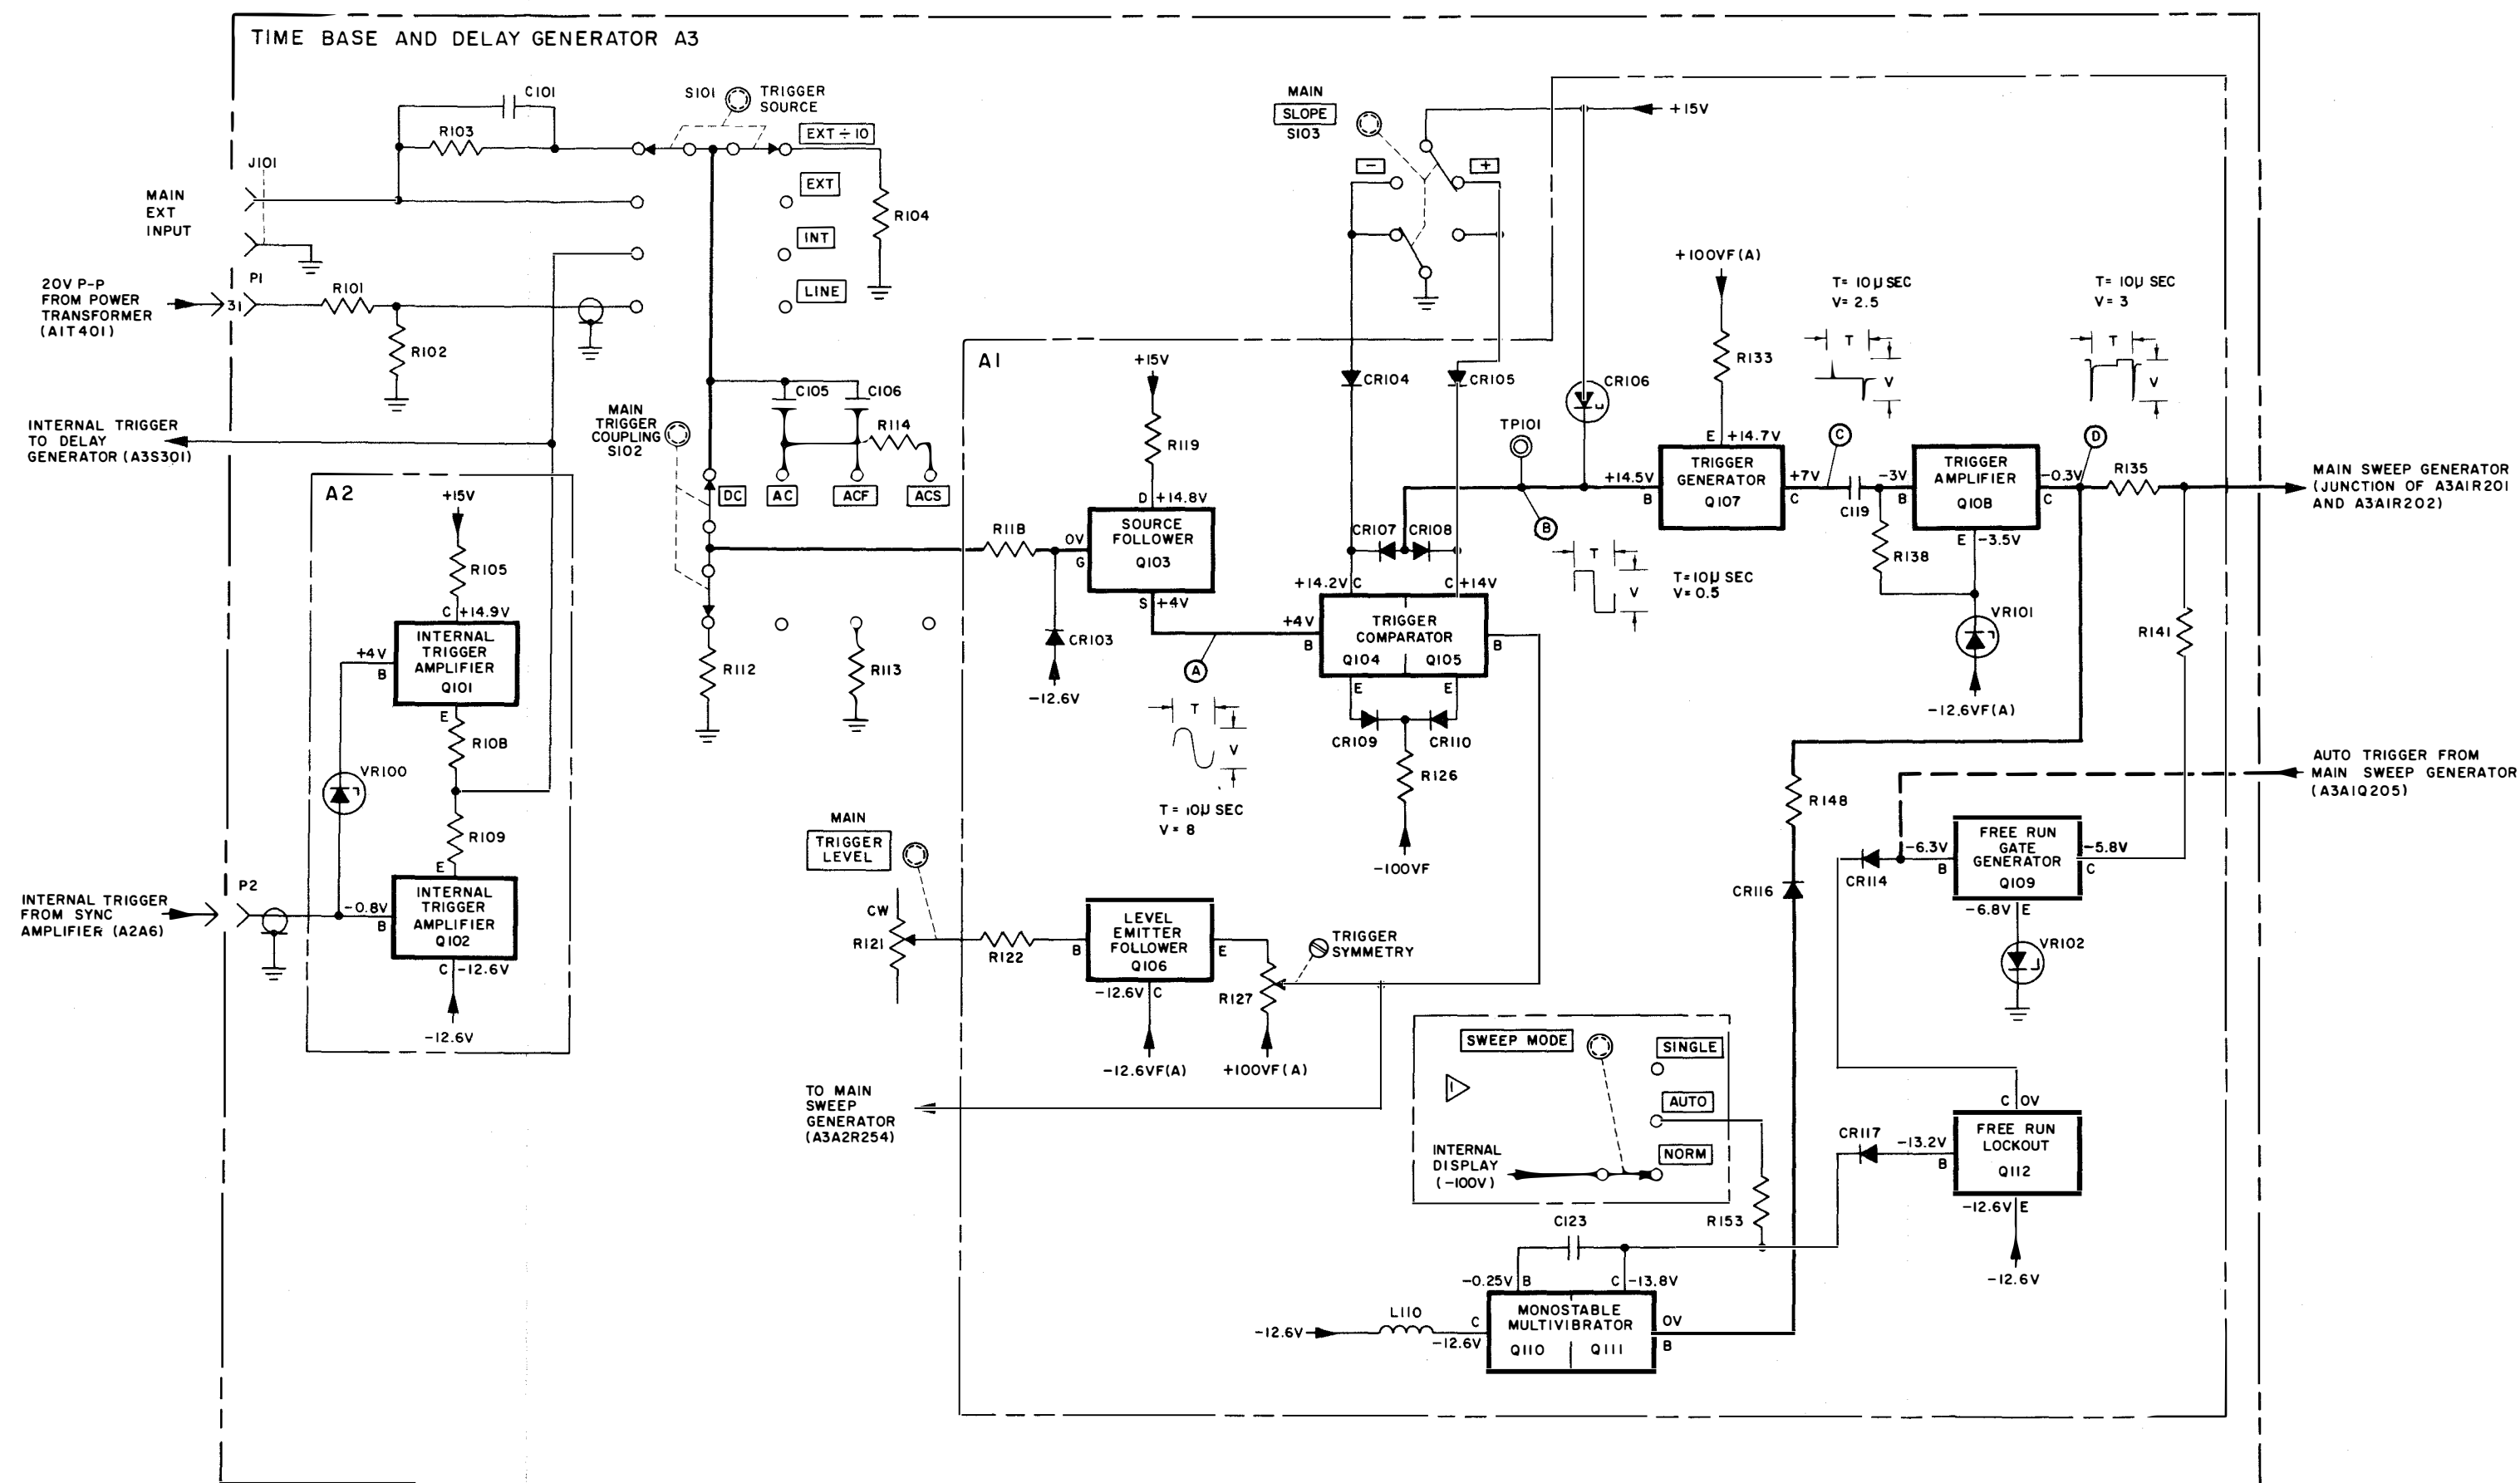

Figure 4-12. Main Trigger Generator and Amplifier Functional and Servicing Block Diagram
not be stabilized by adjusting the main TRIGGER LEVEL, set the SWEEP MODE to NORM and observe the display. If the display remains on the CRT (stable or unstable), the trouble is probably in the main trigger generator and amplifier functional section. If the display disappears, the trouble is probably in the sync amplifier. Further isolate the malfunction by connecting the CALIBRATOR 10V output to the main EXT INPUT and setting the main trigger source to EXT $\div 10$. If a stable trace appears, the trouble is in the sync amplifier or in the internal trigger amplifier (A3A2Q101/A3A2Q102) in the time base and delay generator (figure 4-12). If a display can not be obtained by adjusting the main TRIGGER LEVEL, the trouble is in the main trigger generator and amplifier functional section.
b. MAIN TRIGGER GENERATOR AND AMPLIFIER TROUBLE SHOOTING. - The trouble-shooting chart for the main trigger generator and amplifier functional section is provided in table 4-11 and the servicing block diagram is shown in figure 4-12. A trouble in this functional section will usually cause an unstable main display or no display at all. To isolate a trouble to this functional section, connect the CALIBRATOR 250MV output to one of the vertical inputs and attempt to obtain a display (refer to Section 3). With the SWEEP MODE in AUTO, the main trigger source set to INT, and the main trigger coupling set to DC, a stable square wave should be displayed on the CRT. If the display can not be stabilized by adjusting the main TRIGGER LEVEL or if no display can be obtained, set the SWEEP MODE to NORM and observe the CRT. If the display was unstable in the AUTO mode and a stable display is obtained in the NORM mode, the trouble is probably in the monostable multivibrator (A3A1Q110/A3A1Q111) or the free-run lockout circuitry (A3A1Q112). See figure 4-12. If a display could not be obtained in the AUTO mode but a stable display is obtained in the NORM mode, the trouble is probably the free-run gate generator (A3A1Q109). If the display is still unstable or if a display cannot be obtained in the NORM mode; set the main trigger source to EXT ÷10, connect the CALIBRATOR 10V output to the main EXT INPUT and observe the CRT. If a stable trace is obtained, the problem is probably in the internal trigger amplifier (A3A2Q101/A3A2Q102) or the sync amplifier functional section. If the display is still unstable, the problem is probably in the main trigger generator and amplifier (A3A1Q103 through A3A1Q108). If a trace could not be obtained in either the AUTO or NORM modes, the problem could also be in the main sweep generator functional section.
c. USEFUL ILLUSTRATIONS. - Illustrations useful in maintaining this functional section are: Figures 4-12, 5-26, 5-27 and 5-32.